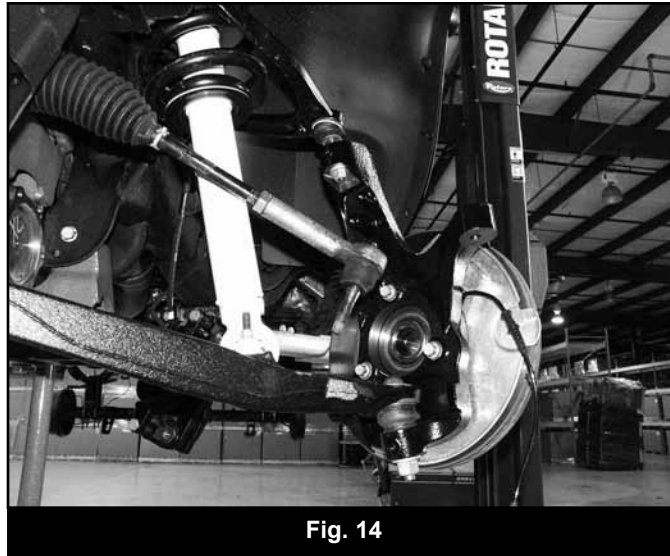

Fig. 14
32. Install the assembled knuckle on the lower control arm with the original lower ball joint nut. Attach the knuckle to the upper control arm with the original upper ball joint nut. (Fig 14) Torque the upper nut to 37 ft-lbs and the lower to 74 ft-lbs.